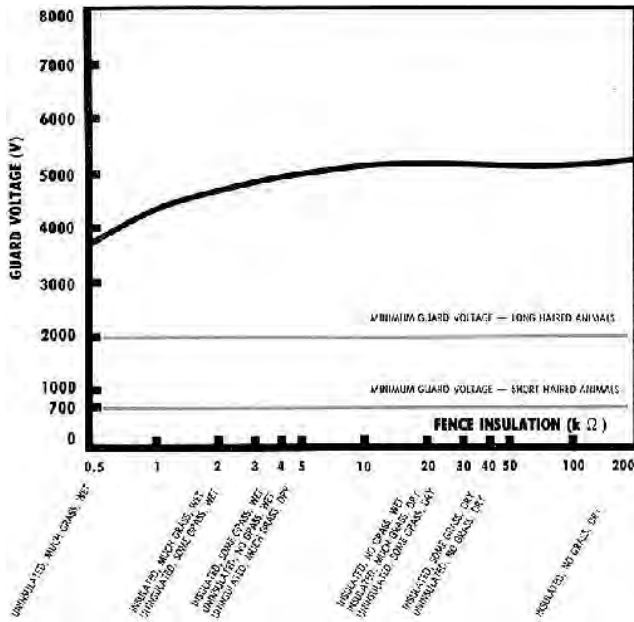

FIGURE 1. Guard Voltage Produced on a 5.4 km Single Wire Fence.
**Peak Voltage Output:** FIGURES 1 and 2 show peak voltage outputs of the Gallagher E12 for a 5.4 and 16 km (3.3 and 10 mi) lengths of single wire fence over a range of insulation resistances. On a 5.4 km (3.3 mi) fence (FIGURE 1) peak voltage output varied from 5210 V for a well-insulated, grass-free, dry fence to 3690 V for an uninsulated, wet fence with considerable grass touching the charged wire. The voltage output for all fence conditions, was well above the 2000 V minimum guard voltage needed for long-haired animals. From FIGURE 1, it can be seen that the Gallagher E12 can be satisfactorily used on this length of fence without wire insulators.
As can be seen from both FIGURES 1 and 2, plant growth touching a fence did not appreciably affect controller performance, since the voltage output was above 2000 V for all fence conditions. The Gallagher E12 can be expected to operate well over a wide range of fence conditions.